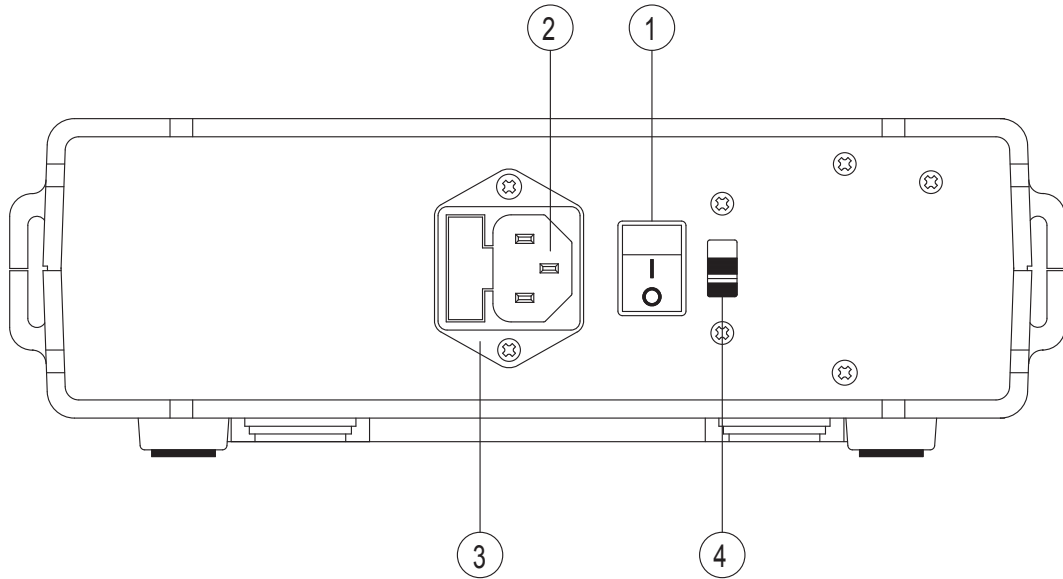

Figure 2. Controls and Connectors
See Figure 2 for location of controls and connectors of rear panel.
2. Refer to figure 2. Locate the Mains fuse holder on the rear panel.